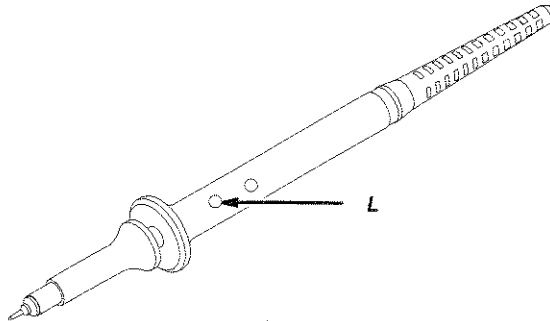

Figure 3: Adjusting Low-Frequency Compensation
- Step 3:** Trimmer **L** adjusts a long time constant component of the probe low-frequency response, beginning at the waveform front corner. Adjust trimmer **L** (refer to Figure 3) until you see a flat-top square wave on the display.